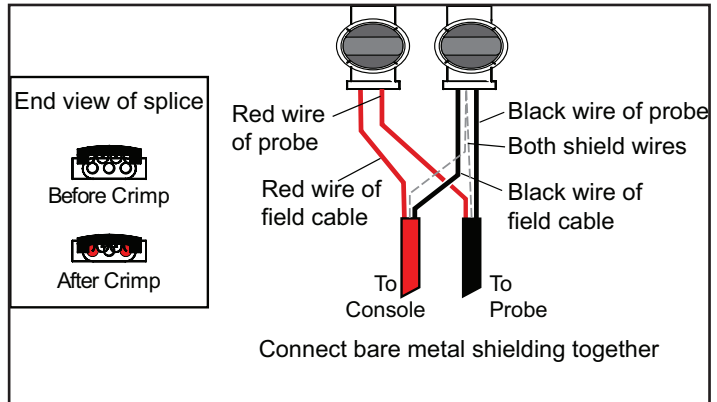

Figure 8: Splice Kit for Probe Wiring
1. Check Wiring. Ensure that the Red, Black and Shield wires are connected to the correct terminals to the ATG. There should be two connections in the junction box, (refer to figure 8).